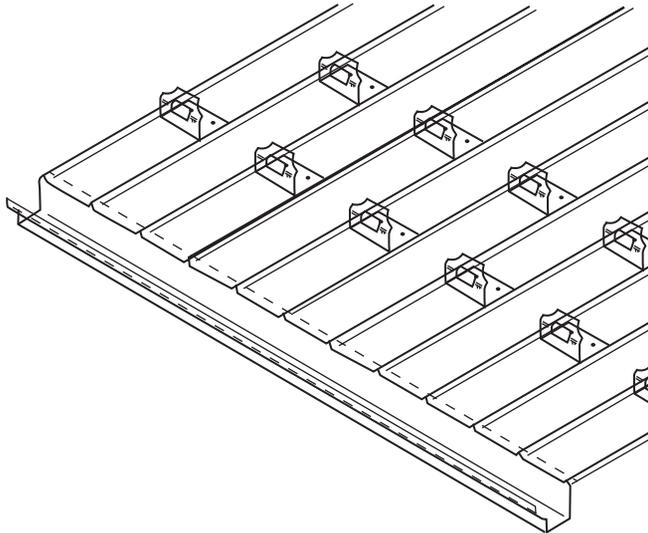

Figure 5: Individual snow guards in staggered pattern
- For a pitch steeper than 4/12, two rows arranged in a staggered pattern is recommended (Fig.5). A spacing of 2 feet is required between rows.